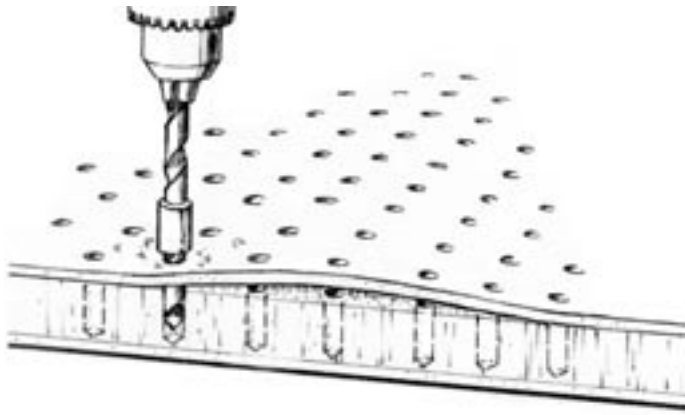

Figure 5-2 Drill a pattern of holes, 25mm apart over the area of delamination to allow the core material to dry out.
1. Drill 5 mm diameter holes at 25mm intervals, creating a pegboard-like pattern that extends several centimetres beyond the delaminated area (*Figure 5-2*). The holes should penetrate the fibreglass skin and the core without drilling into the opposite skin. Use a drill depth control device to prevent drilling entirely through the panel.